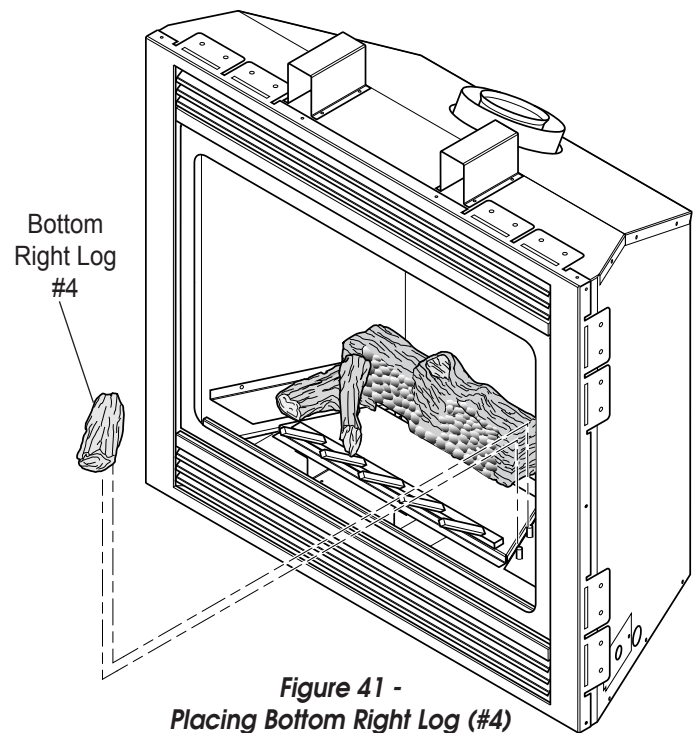

Figure 41 -
4. Place bottom right log (#4) in front of rear log. Line up the holes in the bottom right log with the pins on the log support bracket. *See Figure 41.*